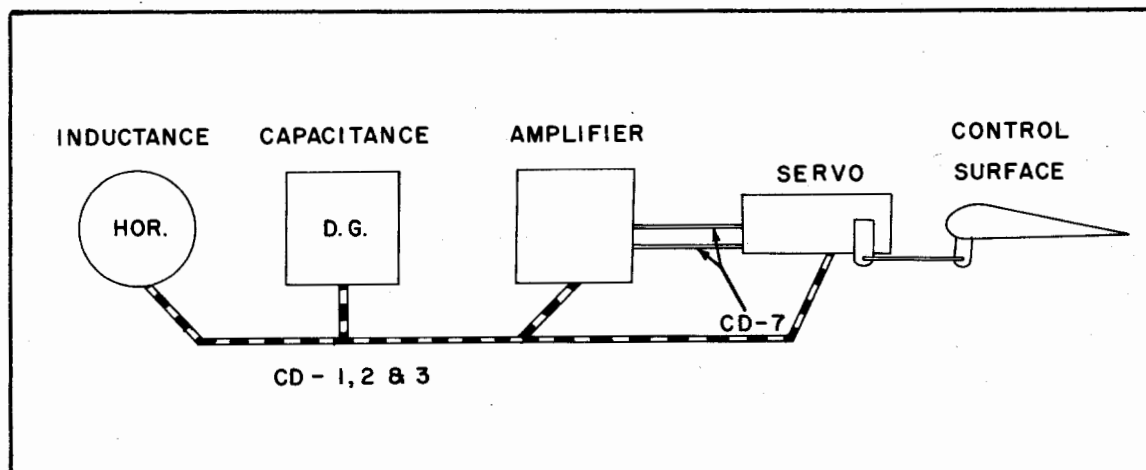
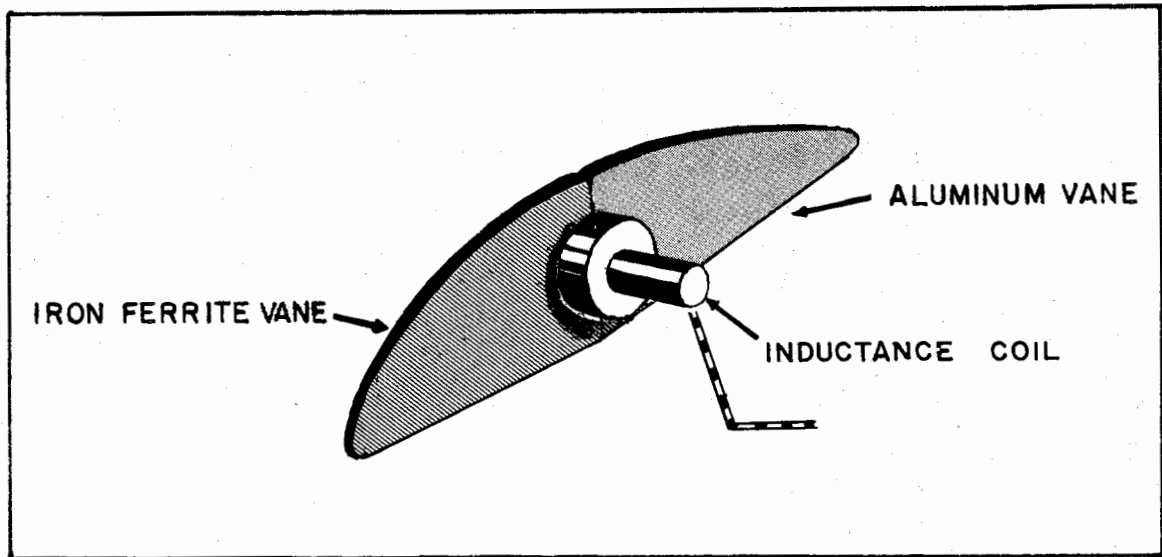

Figure 1-3.
Figure 1-4.
A. INDUCTANCE: The pitch and roll circuits are two separate systems, however, they are identical electrically and the same theory applies to both. Figure 1-3 typifies one of these systems in its simplest form.
The inductance portion of the frequency, shown as a circle in figure 1-3, is in the roll coil of the artificial horizon. This coil is mounted in the top rear of the horizon case. The coil protrudes into the case and is in close proximity to a set of vanes (as shown in Figure 1-4) that are attached to the gyro gimbal assembly.
B. CAPACITANCE: The necessary capacitance of the roll circuit, shown in Figure 1-3, is found in a series of variable condensers. These variable condensers are in the D.G. heading sensor, the manual trim control, roll follow-up, and leveling condenser in the amplifier.